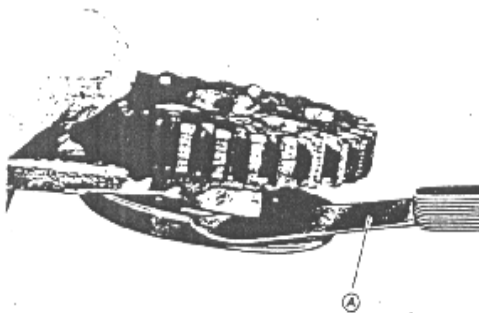

Fig. 2-61
Upon disassembling the engine, immediately inspect the transmission internals, visually examining the gears for damage and checking the meshed condition of gear teeth. Using a thickness gauge (A) (09900-20803), Fig. 2-61, check the shifting fork clearance in the groove of its gear.